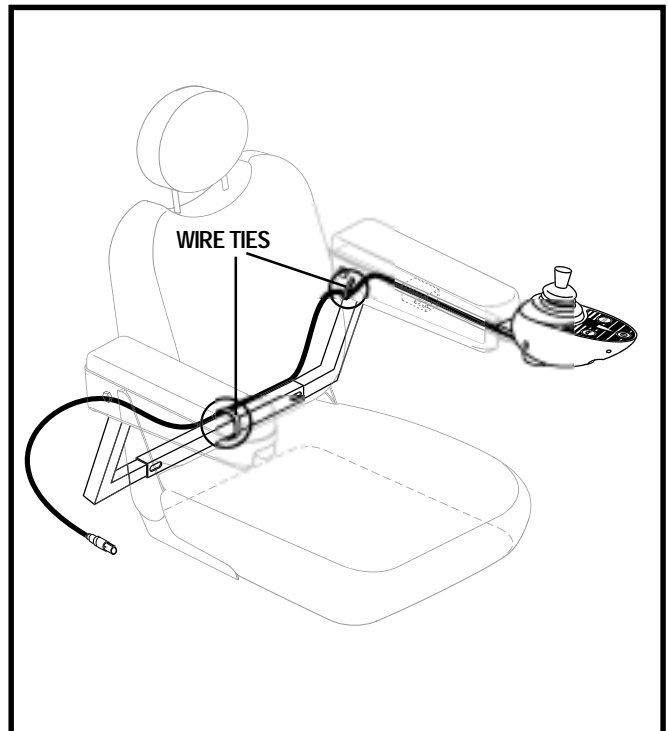

Figure 13. Remote Plus Controller Routed on a High-Back Seat
8. Secure the controller cable to the armrest receiver with wire ties. See figure 13.